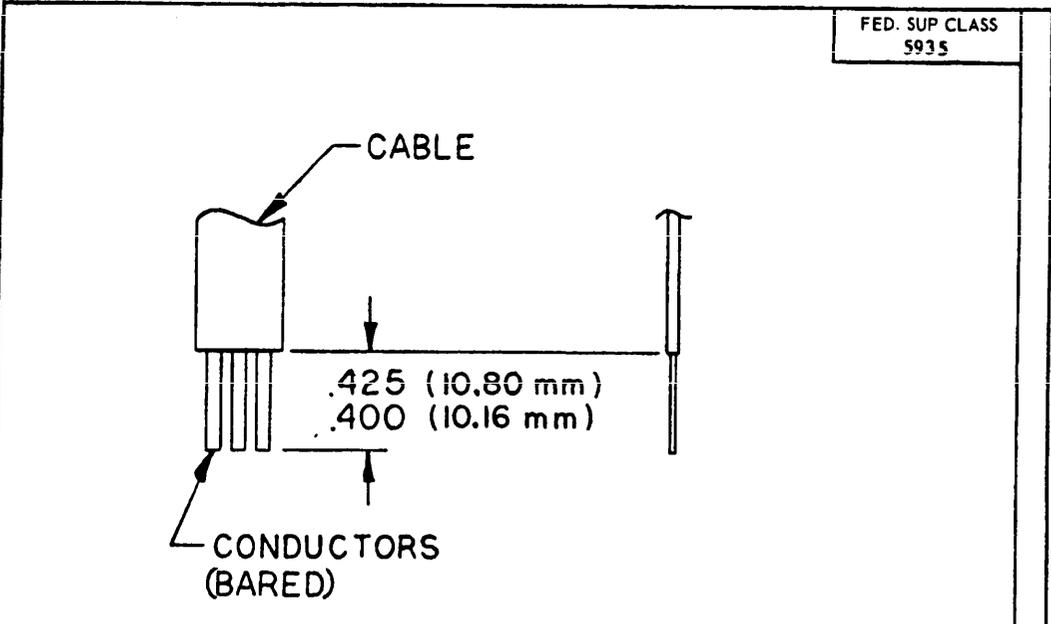

FIGURE 1. Cable stripping.
- A. Prepare the cable ends of the two flat conductor cables by removing the insulation as shown in Figure 1 (Cable Stripping).